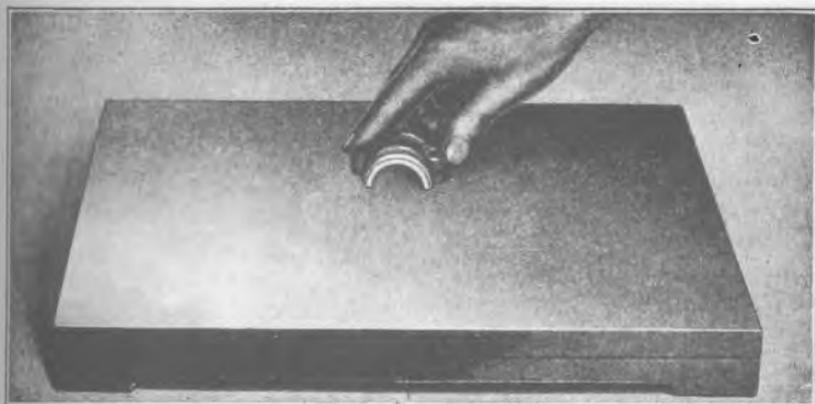

Fig. 233
- 385 When the cap has been dressed down sufficiently, check the cap on a surface plate to make sure that the face of the cap has been filed evenly. (See Fig. 233.)